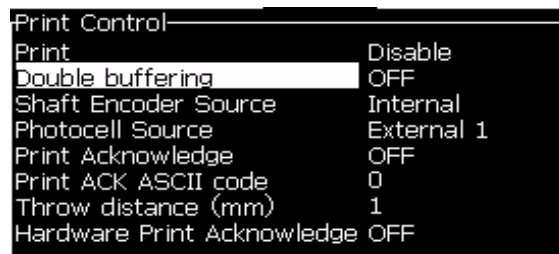

Figure 4-40: Internal Shaft Encoder Source
- 1 Navigate to *Configure> Shaft Encoder Source*. The *Print Control* menu appears (see Figure 4-40 on page 4-32).